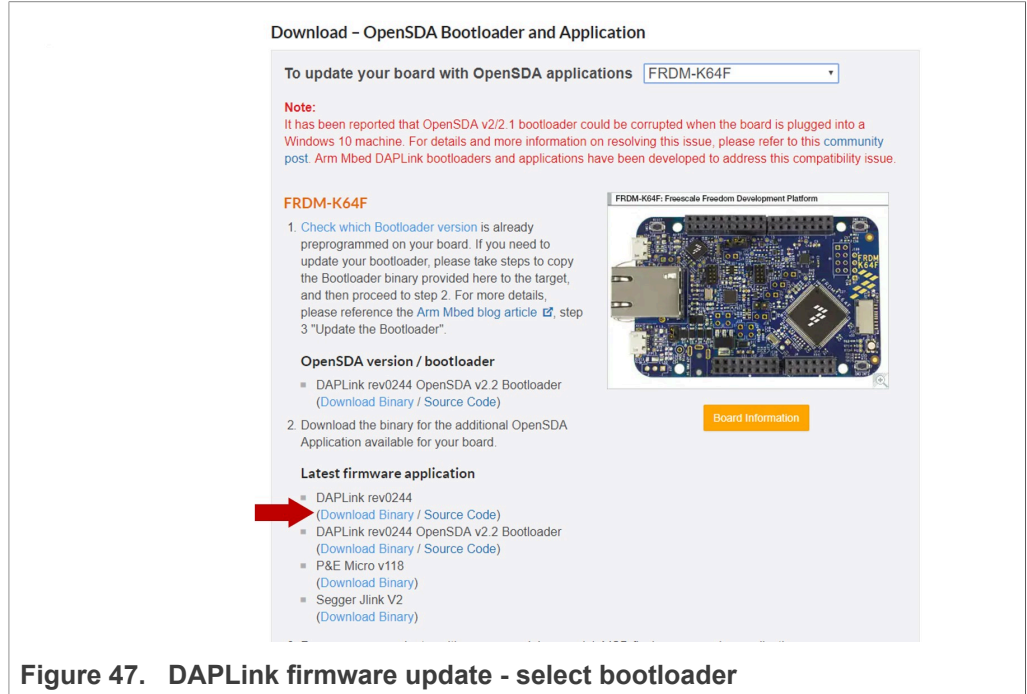

Figure 47. DAPLink firmware update - select bootloader
3. Download the latest DAPLink firmware version as shown in Figure 47:
Note: In case the device does not show up in your Device Manager, please download the latest bootloader version, as shown in Figure 47, or check / exchange the USB cables used.